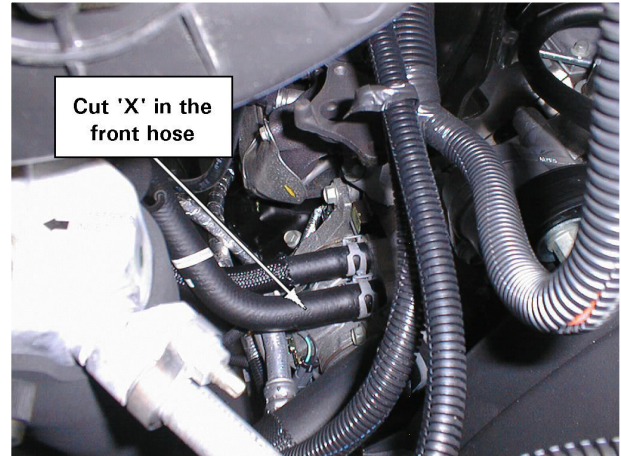

Figure 2. Cut Small 'x' in Water Pump Hose
- a. One method for recapturing the antifreeze is to insert a hose barb into the water pump hose to drain the coolant. This can be done by cutting a small 'x' in the $\frac{3}{4}$ " water pump hose approximately 2.5" from the water pump housing. It is located on the passenger side of the water pump and thermostat housing (see Figure 2).